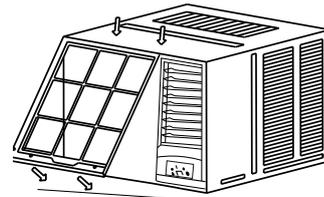

Fig. 8
- 3 Push the unit chassis into the cabinet (See Fig.8).
- 1 Install the frame making sure not to jam the power supply cable (See Fig.8).